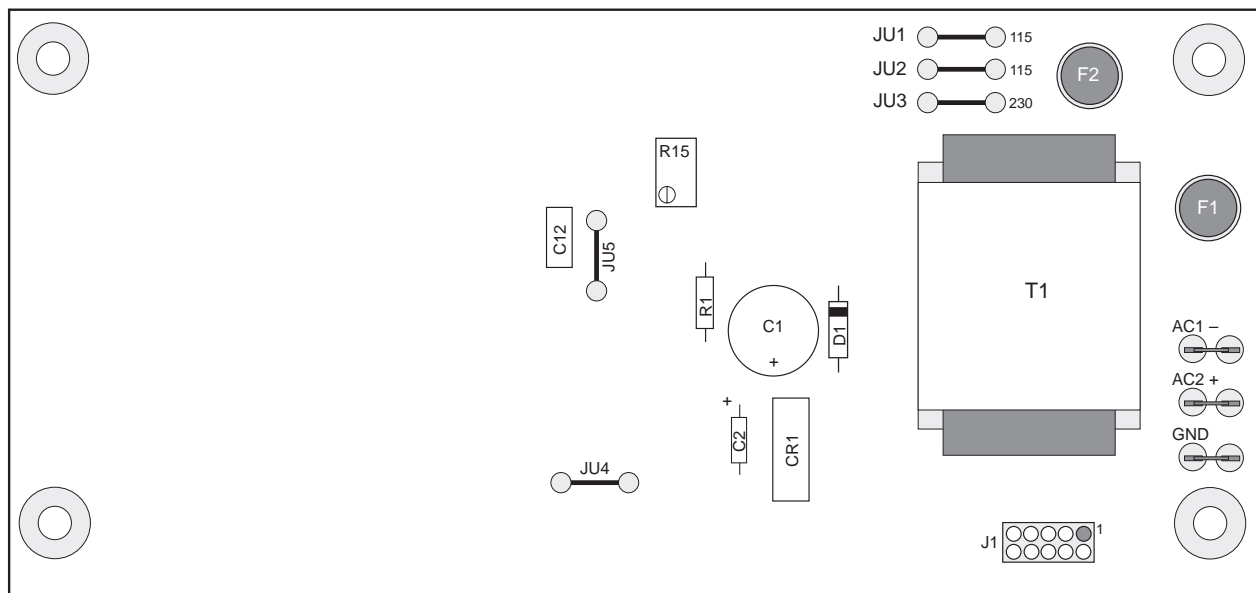

Figure 7-1. Remote I/O Power Supply Board
Both operations require opening the enclosure and removing the logic board to access the power supply board. Figure 7-1 shows the layout of the power supply board, including the locations of the power supply fuses (F1 and F2) and the jumpers used to select operating voltage (JU1–JU3).
3. Disconnect AC power connections on power supply board (AC+, AC–, and GND in Figure 7-1 on page 44), then lift board out of enclosure.